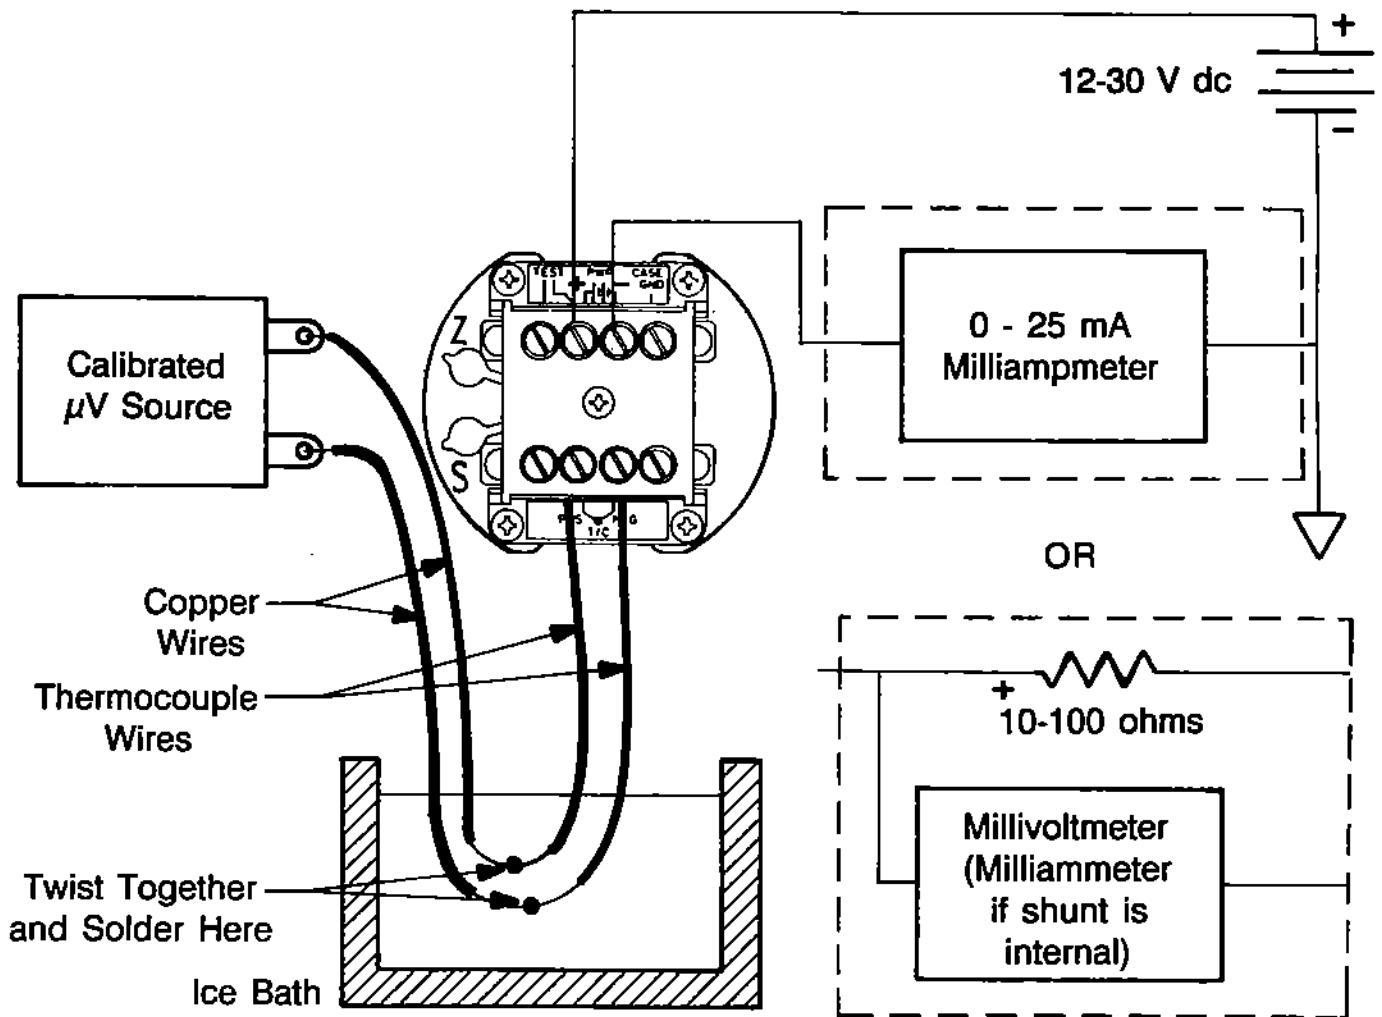

Figure 5-2 Calibration Setup Using Ice-Point Cell
5. Refer to Figure 5-2 and connect the transmitter to the power supply, microvolt source, milliammeter (or current shunt and millivoltmeter). Ensure that the copper wires from the millivolt source and the thermocouple wires from the 502A-E are soldered together and immersed in the ice bath. **Better calibration stability is obtained if the electronic assembly is configured while in the case.**